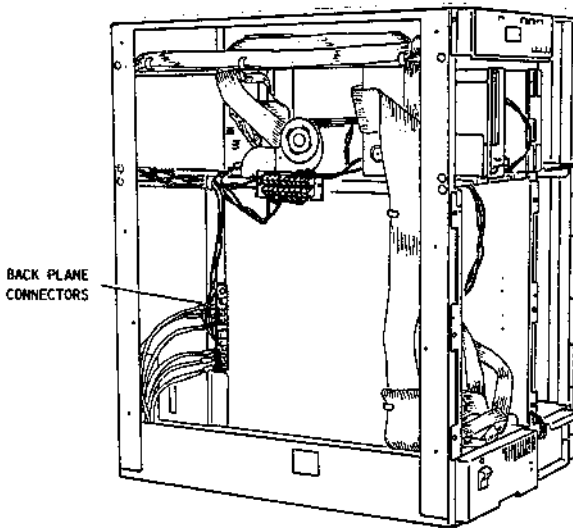
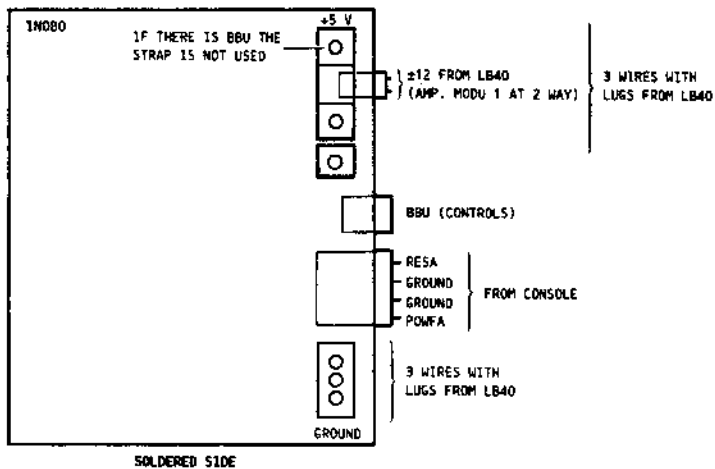

Fig. 2-20 Position of Back Plane Connectors in System Structure
Fig. 2-21 Rear View of Back Plane and Connectors
- Disconnect the three, red +5V power cables and the three black ground cables (see figure 2-21) on the left of the SB0 (see figure 2-20)
- Remove the +/- 12V line connector beside the power cables (see figure 2-21)
- Disconnect connector of the RESET and POWFA signals beside the power supply cables (see figure 2-21)